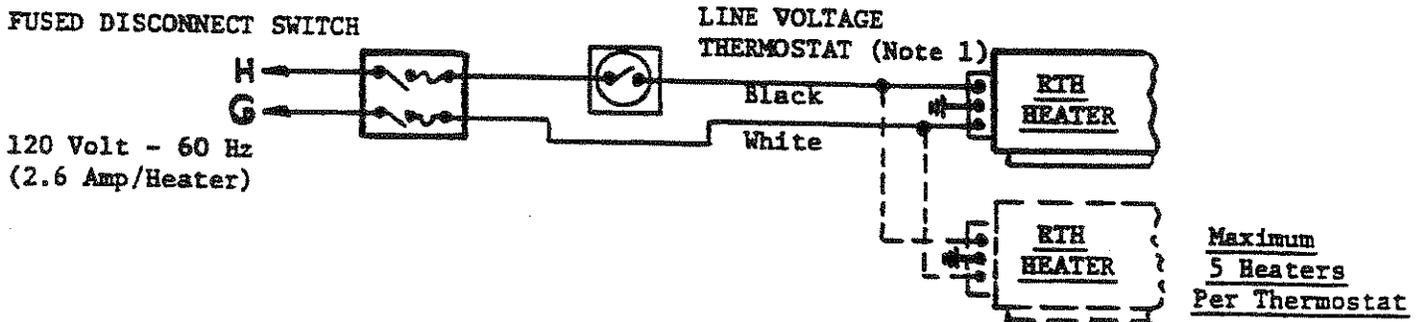
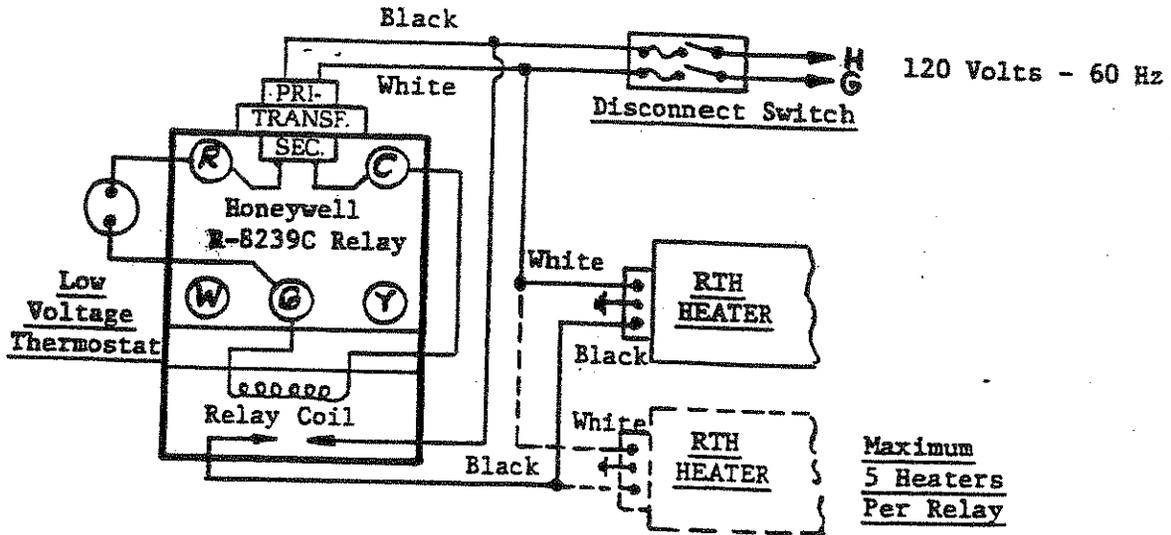

Fig. 4a - "Field" Wiring of Line Voltage Thermostat
Fig. 5a — "Field" Wiring of Low Voltage Thermostat and Relay
1. Heaters are normally controlled by thermostats (See Fig. 4a & 4b). Line voltage thermostats use a relay per Figure 5a & 5b. Heaters must be grounded in accordance with National Electrical Code ANSI/NFPA 70-1984. Heaters can also be controlled with a manual line voltage switch or times switch in place of the thermostat.